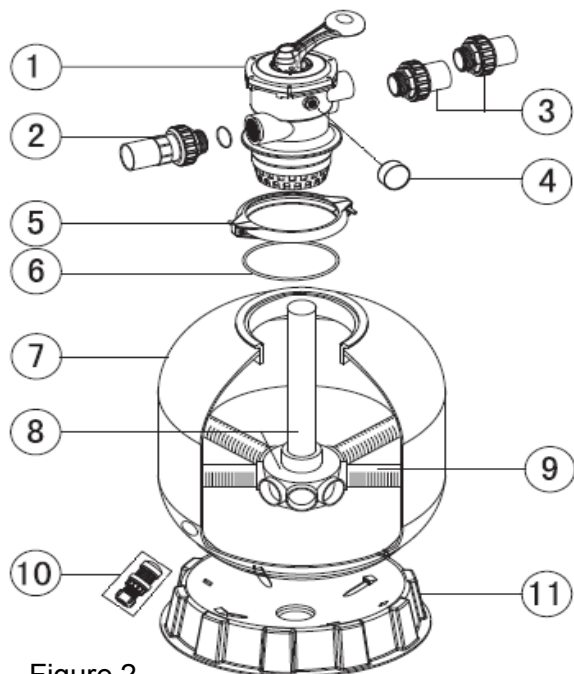

Figure 2
2. The laterals are damaged. (Please see Figure 2, item No.9-Laterals).	2. If water outlet pipe also leaking, that means the laterals are broken, please replace these. (See Figure 2, item No.9-Laterals)